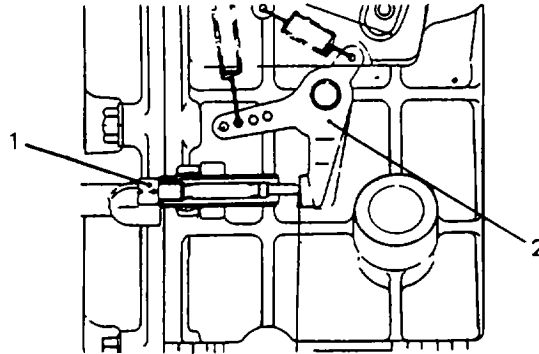

Figure 5-8. Fuel Injection Volume Limitation Adjustment
- (3) Refer to Figure 5-8. Adjust the fuel limiter adjust screw (1) until the tip lightly touches the governor lever (2).